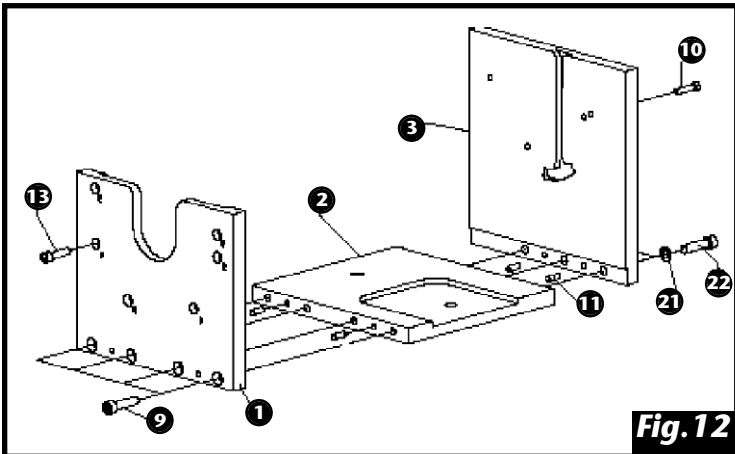

Fig. 12
14. Assemble engine cradle (No. 1 plate primary side, No. 2 bottom plate & No. 3 cam cover side) with 4 No. 9, 3/8" x 1" allen bolts as shown in Fig. 12. Torque all 3/8" allen bolts to 10 ft. lbs. and 3 No. 22, 3/8"x1-1/4" allen bolts, with No. 21 washers. Make sure all mating surfaces are clean.
16. Install (2) lubed 1/4" allen bolts (No. 10) into the appropriate holes, depending on the spigot bore you are modifying, in the alignment plate (No. 3) as shown in Fig. 12. Do not tighten. Install (3) lubed 5/16" allen bolts (No. 13) into the mounting plate (No. 1) holes marked with letter of the spigot bore you are modifying. Using a 1/4" allen wrench snug all three 5/16" allen bolts, then torque to 13-15 ft. lbs. Once you have tightened the 5/16" allen bolts, torque the 1/4" allen bolts to 90-120 in lbs. using a 3/16" allen wrench.
Tighten the chuck or collet (depending on the machine being used) and remove the wood block used to separate the boring assembly. Clamp the base (Fig.12, No. 2) to the drill press table using the provided holes if possible. If you are unable to use the provided holes, be sure to clamp the fixture using C-Clamps or comparable clamps. Before running the machine, lube the two guide dowels with a light oil and run the quill up and down to make sure the boring assembly is not binding.